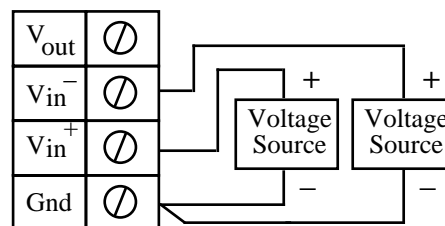

Fig 3.18 - Accelerometer Measurement, Single-Ended Wiring
Accelerometers are set up in either single-ended or differential wiring mode. Figure 3.18 shows a single-ended configuration, yet one can implement differential by wiring as shown in Figure 3.2 and setting the "Wiring" field to differential "Vin+ - Vin-". instruNet calculates acceleration using the equations:
4. Set the Wiring field in the Hardware settings area to either differential "Vin+ - Vin-" (figure 3.2) or single-ended "Vin - Gnd" (figure 3.18), and refer to the steps at the beginning of this chapter for more information on how to set up your sensor.^{5,10}